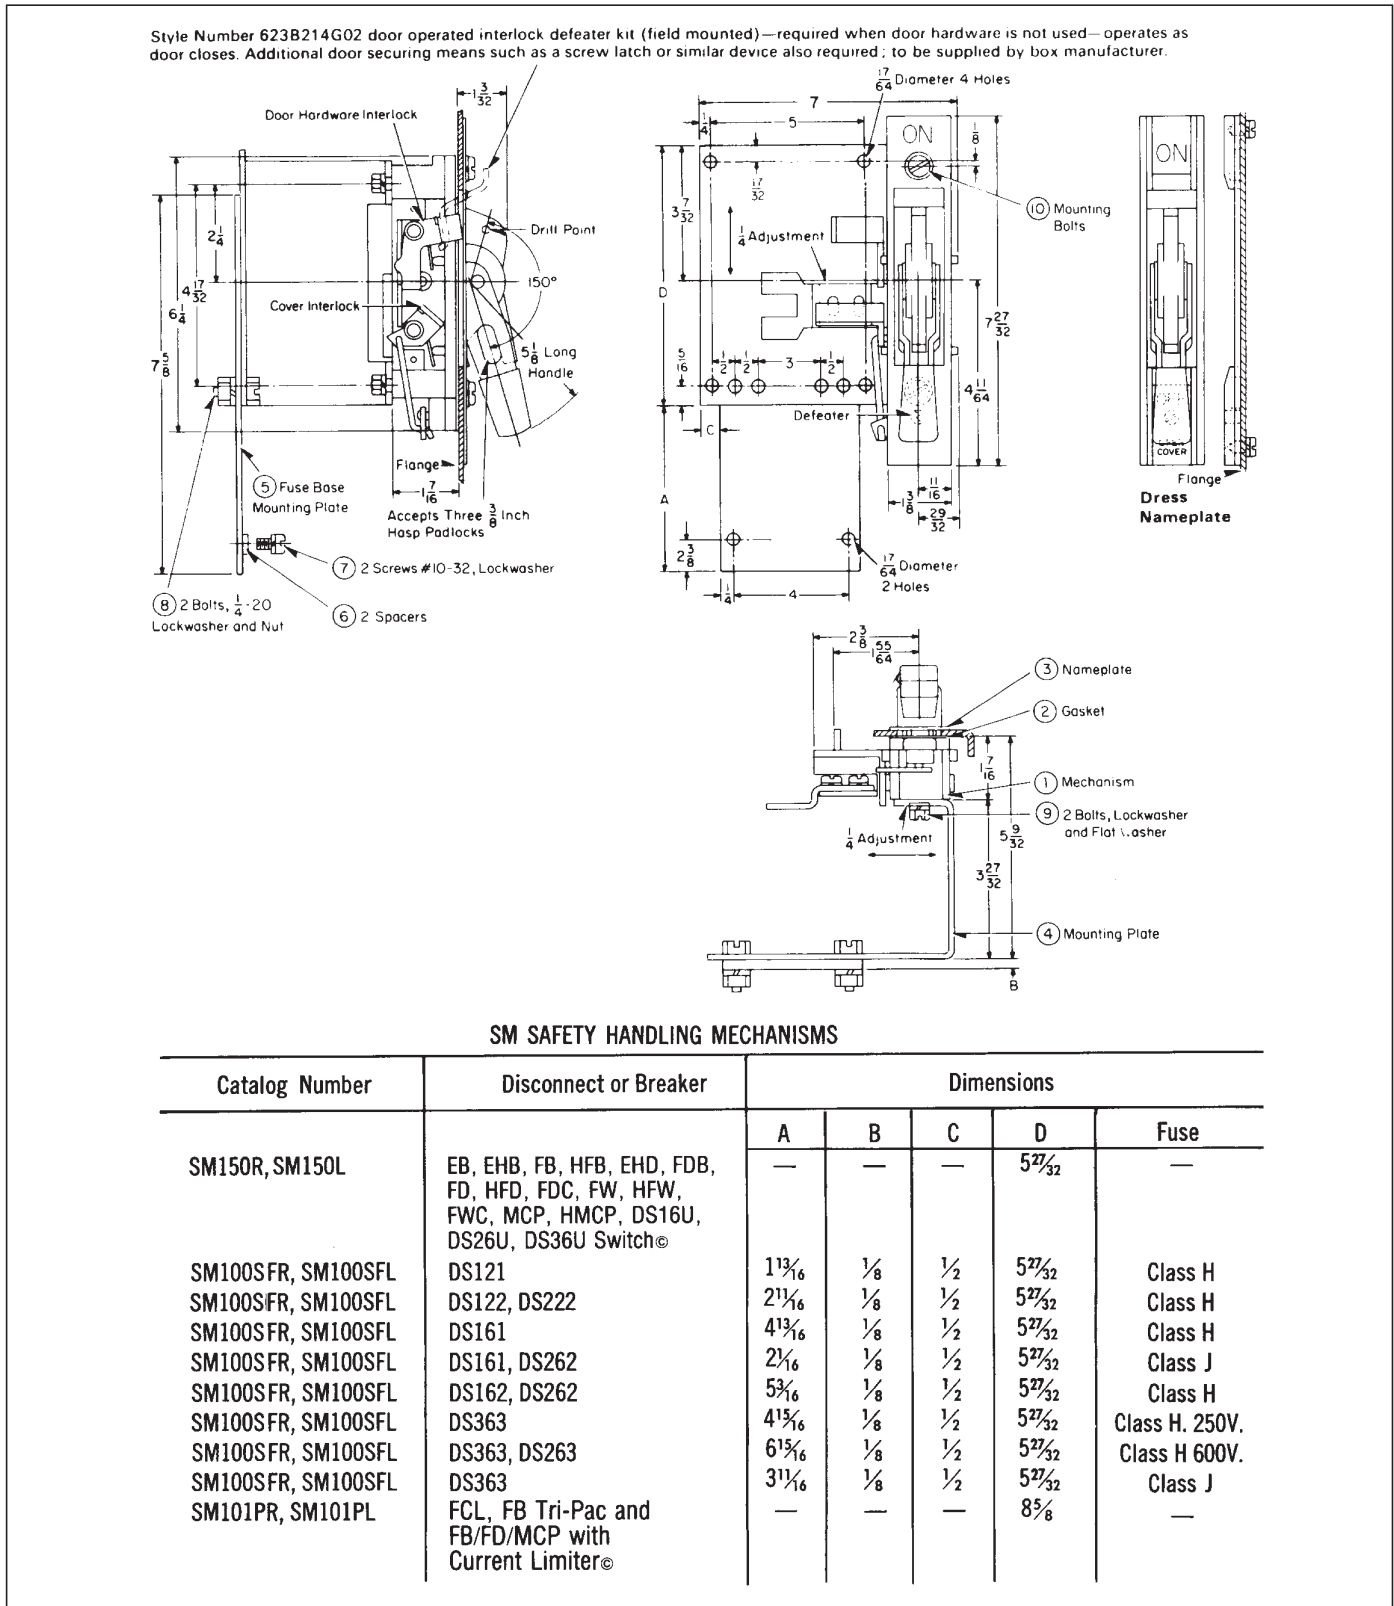

Fig. 5 Outline and Assembly of Mechanism
1. Locate, drill and cut out enclosure flange as shown in Figures 5 and 6. The dimensions for the left-hand mechanism are the same as shown except opposite view.
2. *Fusible Switch:* When mounting plate (4) is used attach fuse base mounting plate (5) in desired location to agree with fuse rating. Set "A" dimension as shown in Figure 5 and fasten plate (5) to (4) with two 1/4-20 bolts (8) in the two pairs of holes that line up.
3. Remove nameplate (3) from mechanism (1) and insert mechanism with gasket through cut-out from inside of enclosure.
4. Place nameplate (3) over handle and assemble to mechanism with two bolts (10) supplied. See Figure 5.
5. Fasten mounting plate (4) to mechanism (1) with two bolts (9). See Figure 5.